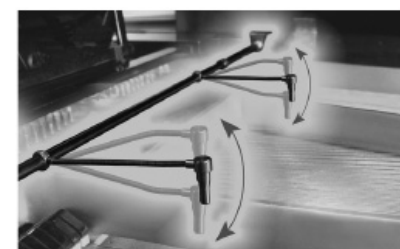

Figure 11. Adjusting the Microphone Height
11. The flex arms also allow you to adjust the height of the microphone heads as shown in Figure 11.